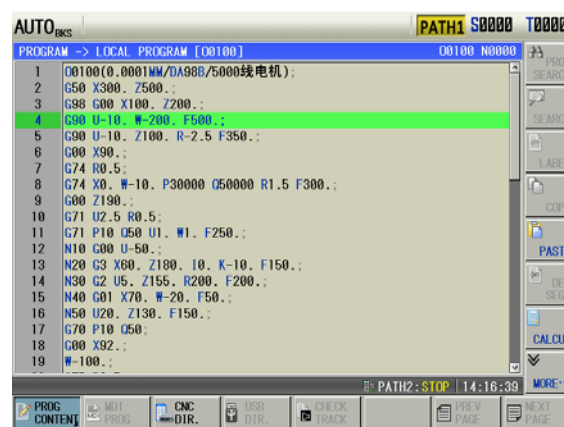

Fig 2
- 4) Press  key to enter the Auto mode, refer to the following fig.2;